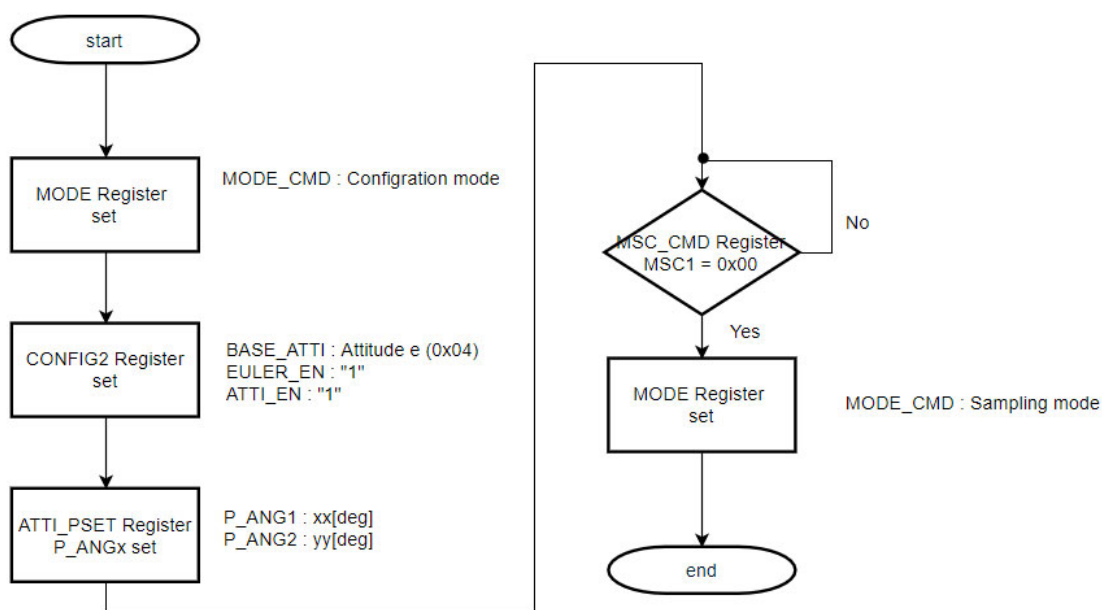

Figure 5-8 PRESET Execution flow
- Set "arbitrary attitude angle" in the PRESET execution flow (Figure 5-8)
- The "arbitrary attitude angle" set in basic attitude① is output from this sensor.